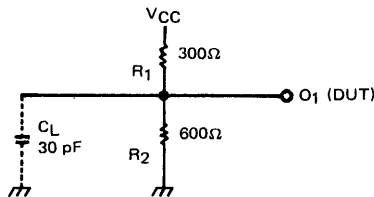

FIGURE 1
- ① Output Load: See Fig. 1.
- ② Input Waveform: 0.0V for low level and 3.0V for high level, less than 10ns for both rise and fall times.
- ③ Measurement References: 1.5V for both inputs and outputs.
- ④ C_L in Fig. 1 includes jig and probe stray capacitances.